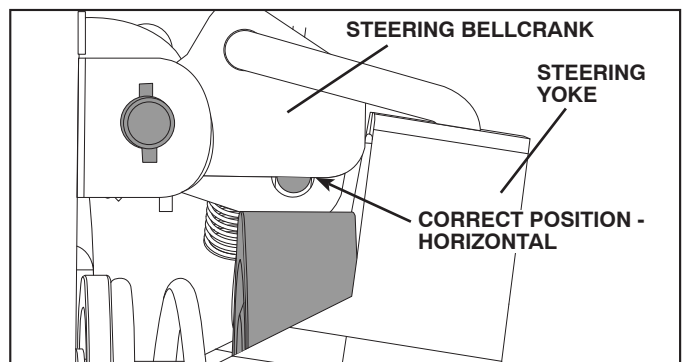
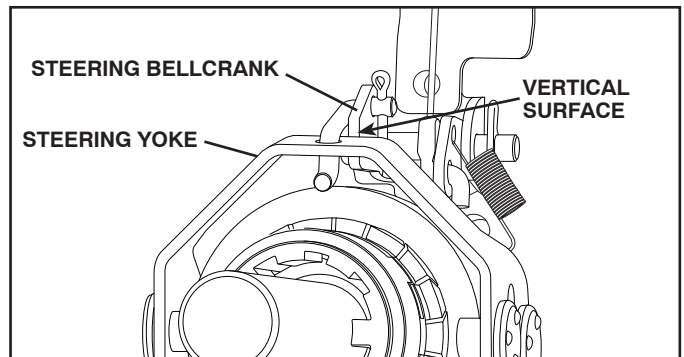

FIG. 34
FIG. 35
**NOTE:** Figure 34 shows the bellcrank positioned correctly. The bottom of the bellcrank is horizontal, in a position parallel to the top of the steering clutch. The steering yoke top edge is in line with the middle of the flat vertical surface of the bellcrank. Figure 35 shows an end view of the bellcrank in the correct position.